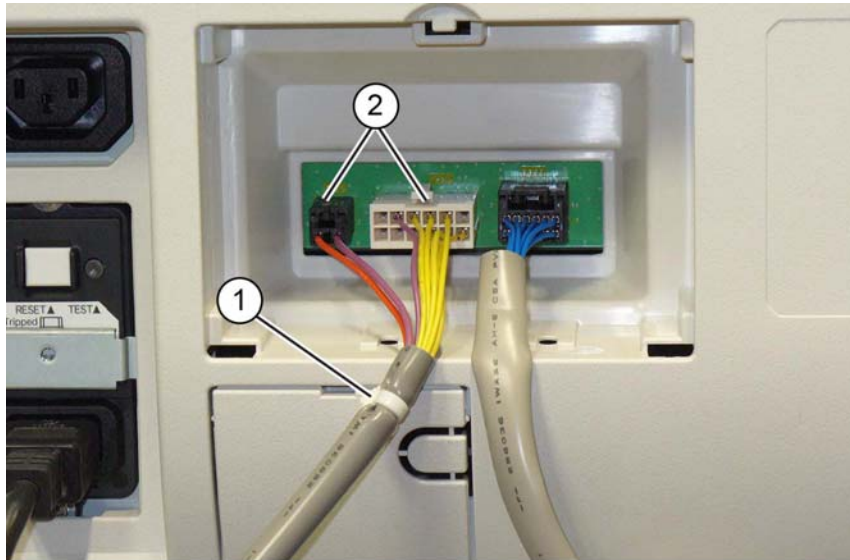

Figure 1 Connectors
2. Disconnect the integrated office finisher harnesses, Figure 1:
- a. Release the cable clamp (1).
- b. Disconnect two connectors (2).